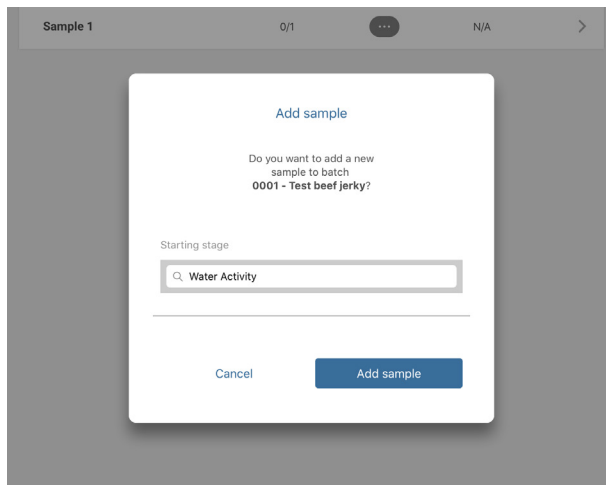

Figure 60 Add sample popup screen
4. Select the plus symbol in the blue circle in the lower left corner of the Batches screen to open the Add sample popup window (Figure 60).
5. Select the **Add sample** button (Figure 60).